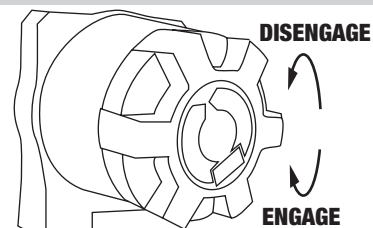

FIGURE 7
Turn clutch handle to the disengage position shown on decal (FIGURE 7). **NEVER RELEASE FREE-SPPOOL CLUTCH WHEN THERE IS A LOAD ON THE WINCH. DO NOT FORCE THE HANDLE.** Release tension on the clutch by winching out some of the wire rope. Release the clutch and pull out the wire rope and secure to anchor or load. Check that there are at least five (5) wraps of wire rope left on the drum. Re-engage the drum by returning the clutch handle to the engaged position. (FIGURE 7)
- Step 4** Turn the freespool clutch handle to the Disengage position (**See FIGURE 7**). Pull 5 feet of wire rope off the drum. Return the freespool clutch handle back to Engaged position. Activate the Winch cable in and out by momentarily pressing the hand held switch to check drum rotation direction. The switch is labeled "IN" for winching in and "OUT" for winching out. When released the switch will automatically go to the off position. **IF THIS DOES NOT OCCUR THEN TAKE THE PLUG OFF THE RECEPTACLE.**